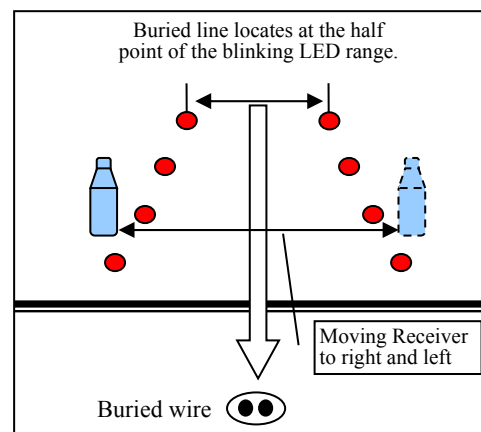

Figure 14
(6) Figure 14 shows the condition of the judgment LEDs. Buried line is at the midpoint of the blinking LED range.